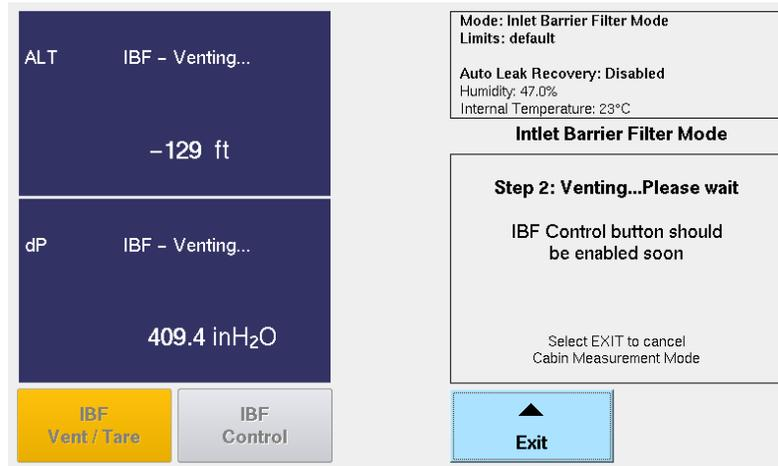

Figure F. 6 IBF Step 2 Screen
9. Select “Yes” to confirm this action. Step 2 screen is displayed briefly while unit is venting to ambient and performing Tear function (Fig. F. 6).